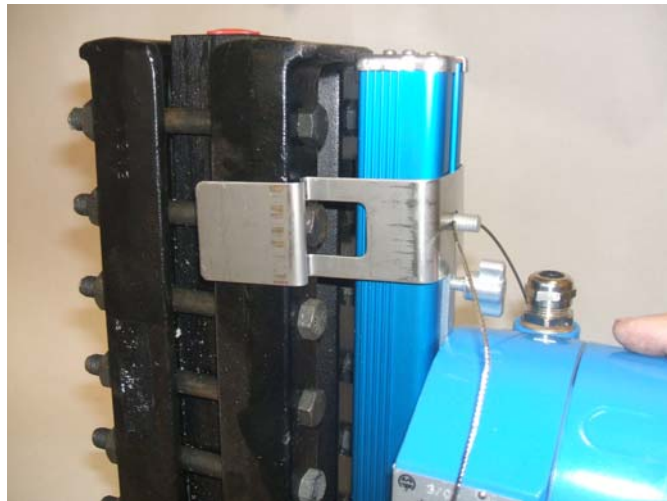

Figure 3
Step 2: Press Jerguson® LumaStar™ assembly against rear of gauge as shown in Figure 3, aligning the bracket cutouts over the gauge bolt heads as shown. Align the brackets with the 2nd set of bolts in from each end of the gauge, when possible. Note that all one-section size 7 models and smaller will require the power supply to be remote mounted.